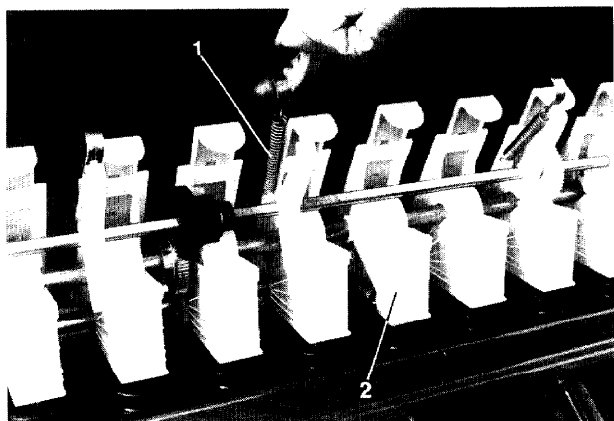

Fig. 114
- The counter shaft of the metering wheel tramlining control (if existent) is after removal of the locking springs (Fig. 114/1) folded downwards with the swivel bearings.
- Remove after slackening the tensioning springs the pressure bearing (Fig. 114/2).